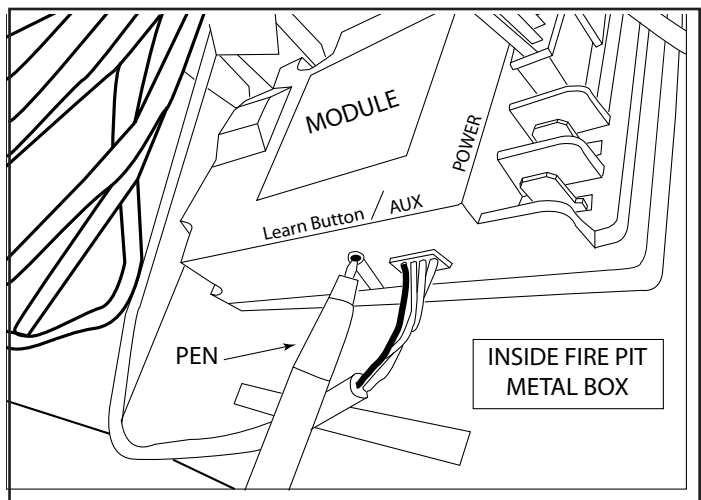

Fig. 29 Learn button location
3. Once the Learn button is located, press and release the button once. You will hear a beep indicating that the module is ready to receive a transmitter code (See Fig. 29)
**NOTE:** A maximum of three (3) codes can be programmed to the module. After a total of three (3) codes have been programmed the memory is full and will not accept any additional codes. To clear all codes, press and hold the learn button for 10 seconds. The module will beep three (3) times indicating the memory is clear of all codes. After codes have been cleared see to Step #3 above to re-learn transmitter.